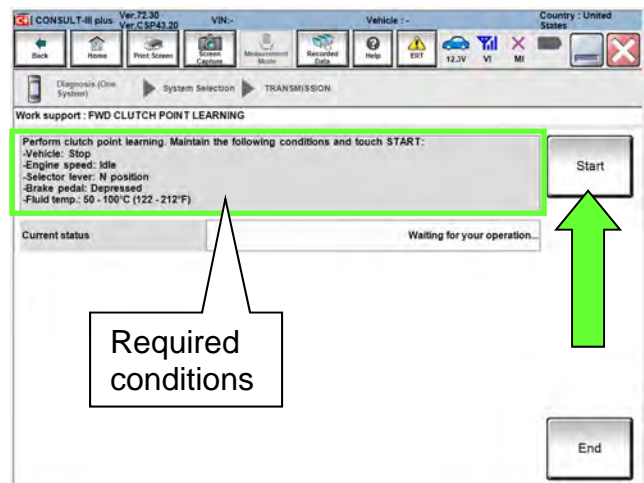

Figure 180
- Confirm that all of the conditions indicated in Figure 180 are being met.
184. While maintaining all conditions shown in Figure 180 and the Current status indicates EXECUTING, shift the CVT into **R** and then wait until the Current status indicates COMPLETED.